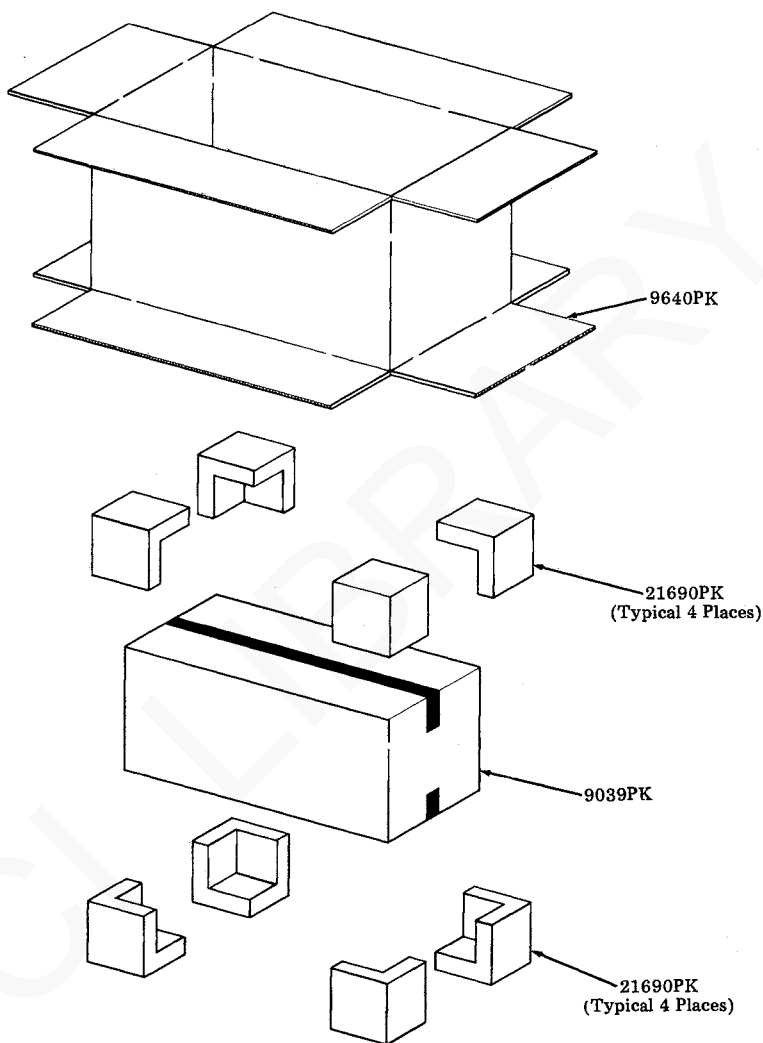

Fig. 59
Step 7. Form a 9640PK carton and with bottom of flaps outward place carton around prepacked unit. See Fig. 59.
Step 8. Place a 21690PK plastic corner on each of the four corners of the inner carton. See Fig. 59.
Step 10. Place a 21690PK plastic corner on each of the four corners of the inner carton. See Fig. 59.